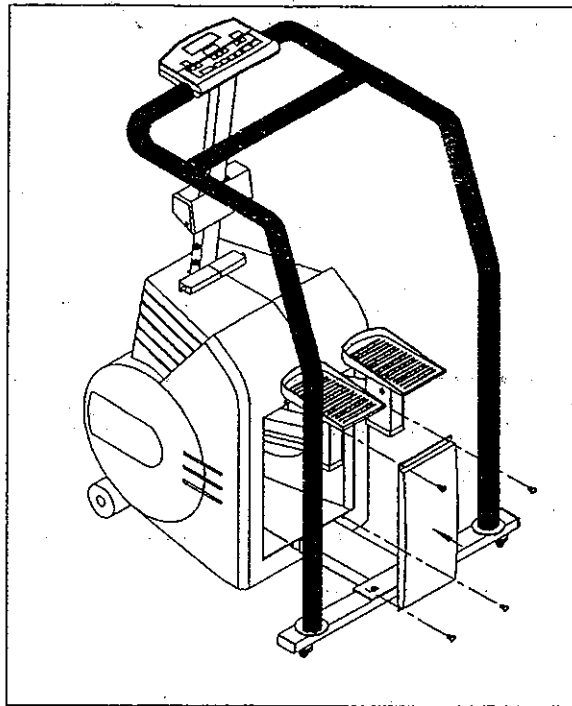

Fig. 15
5. Secure the front cover with screws (see Fig. 15).